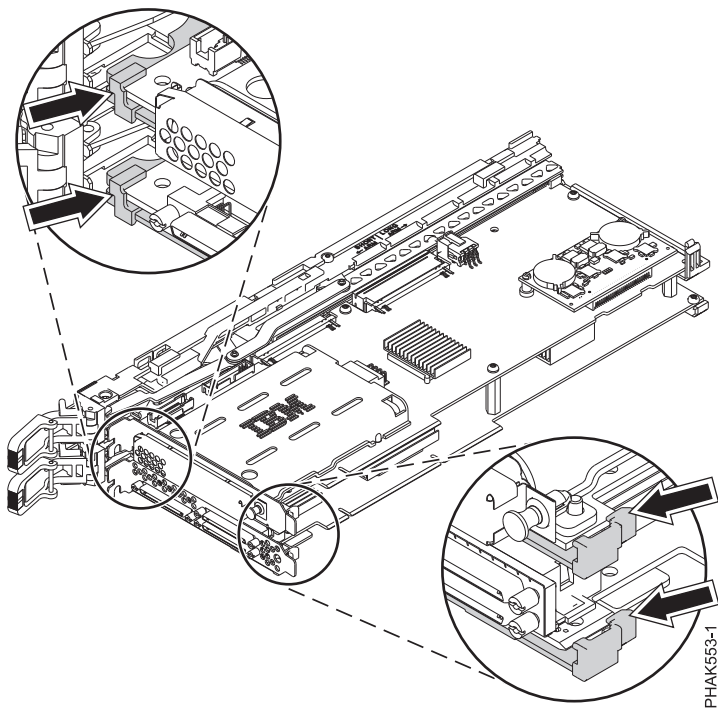

Figure 55. Placing the double-wide adapter in the cassette assembly
- a. Insert the top of the double-wide adapter tail stock into the notches in the cassette assembly, and then secure the bottom of the double-wide adapter tail stock to the cassette assembly. See Figure 55.